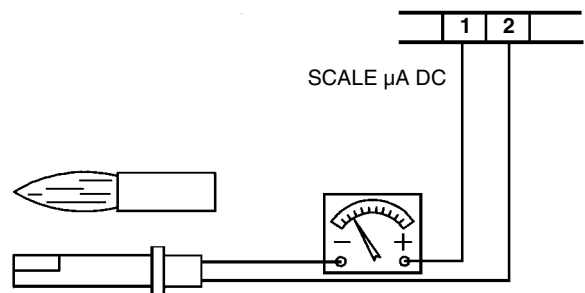

Fig. 36
- Inspect and thoroughly clean the flame detection photoresistor and replace if necessary. In case of doubt, check the detection current after first starting the burner by following the procedure illustrated in Fig. 36;